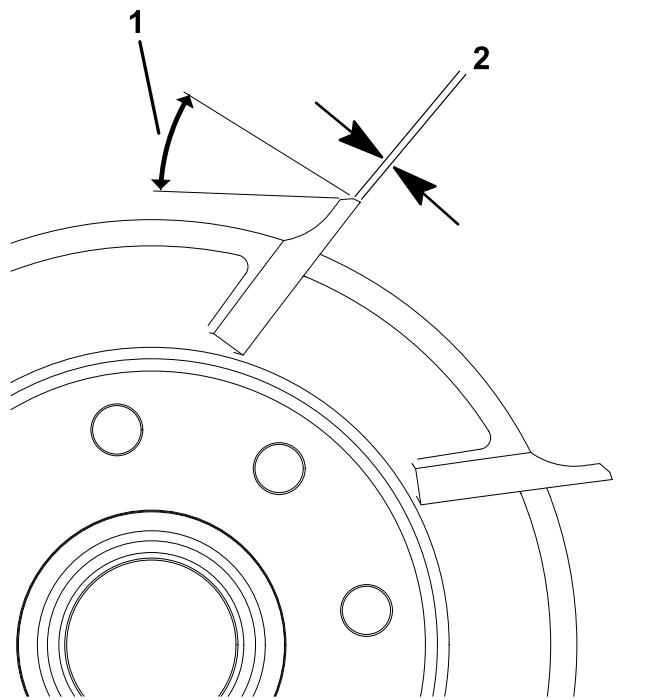

Figure 27
1. Apply a 30° relief grind on all reel blades until the land width is 0.8 mm (0.03 inches) wide (Figure 27).